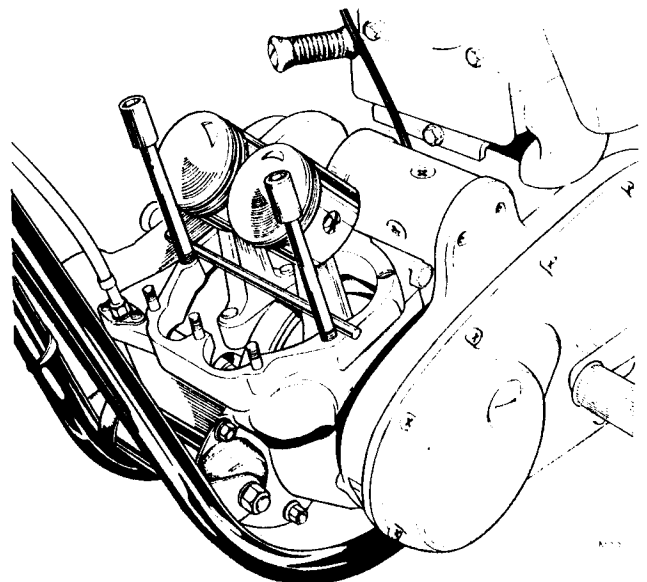

Fig. C10 Support connecting rods to prevent damage against crankcases
- 2 Commence lifting the cylinder off the base studs and prepare to support the connecting rods as the cylinder is lifted clear of the pistons. In *Fig. C10* a suitable implement has been inserted between the refitted cylinder through bolts to prevent the connecting rods and pistons falling against the crankcase mouth. Any damage to the connecting rods could result in failure of the rods at a later stage of use.